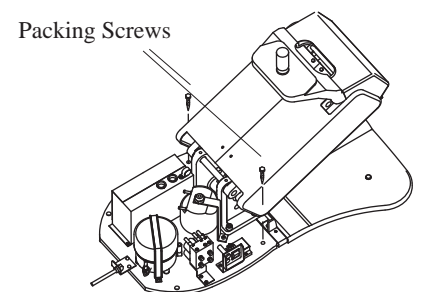

Fig 4-1-2
- 2) Using a 10mm socket, loosen and remove two packing screws holding the chair base into pallet. (See Fig 4-1-2)